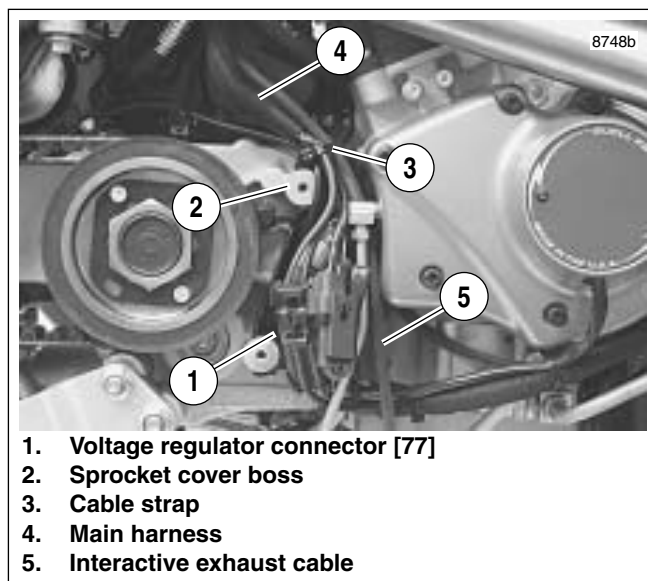

Figure 7-96. Assembled Wiring (Typical)
See Figure 7-96. In next step, be sure main harness (4) is routed around sprocket cover boss (2).
8. See Figure 7-96. Connect voltage regulator connector [77] (1). Be sure connector latch faces inward and voltage regulator wires are positioned behind other wires in harness at sprocket cover boss (2).
9. Install cable strap (3) securing vehicle speed sensor wiring to starter connector [128] wiring.
10. Install cable strap (5) securing main harness wiring.
11. Install cable strap (6) securing stator, cam position sensor and oil pressure switch wiring.
12. Add cable strap (7) to secure cam position sensor and voltage regulator wiring.